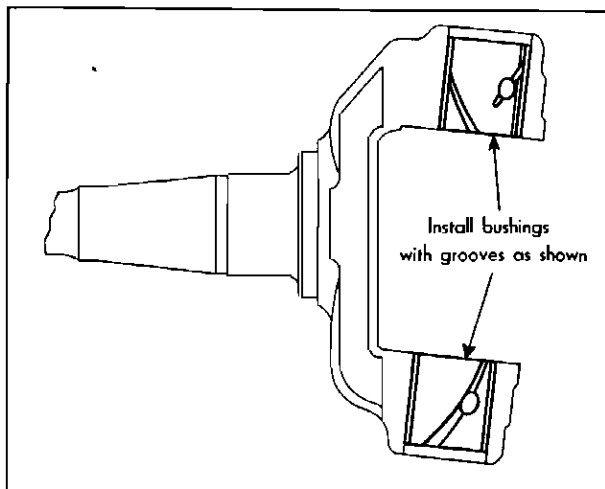

Fig. 6-20 Knuckle Pin Bushing Installation
1. Press new bronze bushings (if required) into steering knuckle, making certain that the oil hole in each bushing lines up with the oil hole in the knuckle and that the short groove leads from the oil hole to the outer ends of the knuckle in each instance as shown in Fig. 6-20.